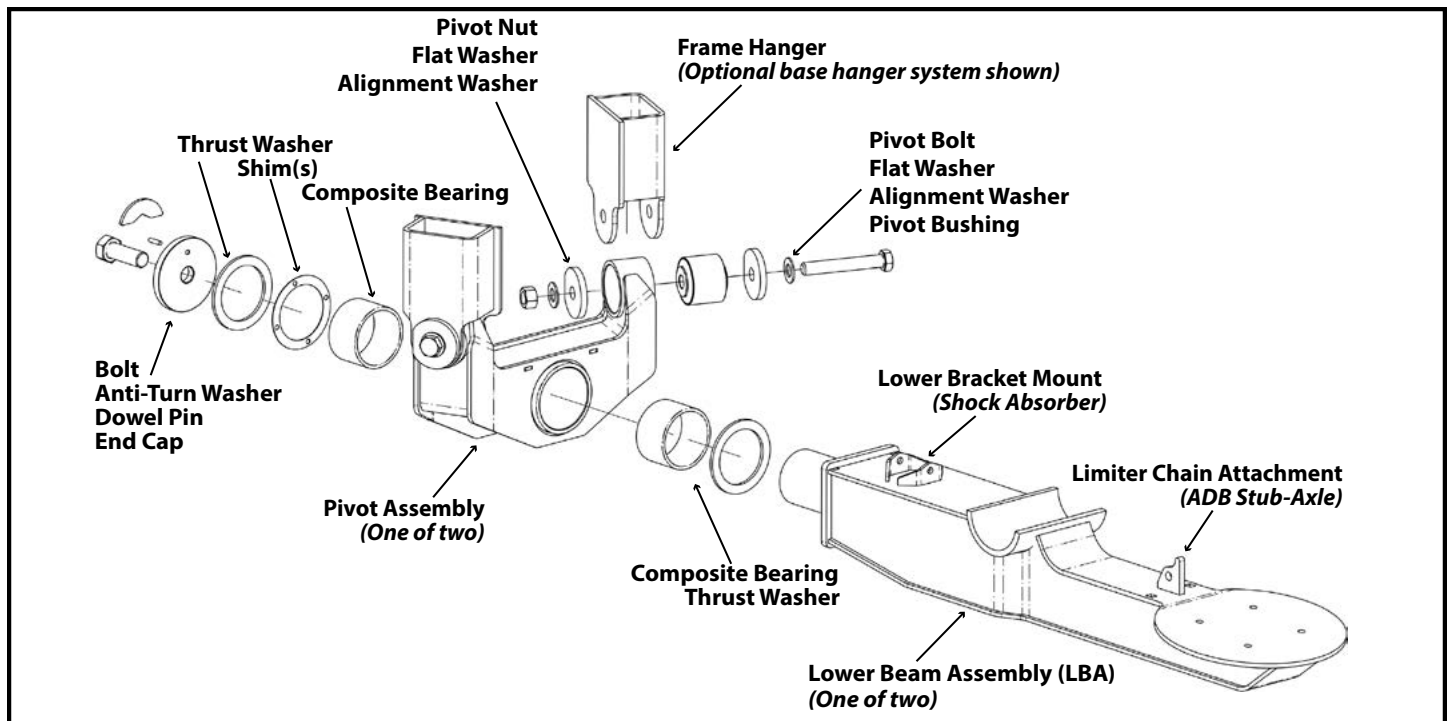

Figure 6.
Replace the two (2) pivot connections on each axle at the same time (Figure 6).
7. Check pivot assembly for excessive play by moving assembly back and forth. Remove from Lower Beam Assembly (LBA) for further inspection and replacement if necessary (Figure 6).
3. Disassemble the two pivot connections of the pivot assembly. Inspect and replace components as necessary (Figure 6/Page 8).